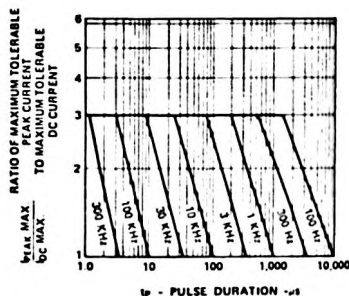

Figure 5. Maximum Tolerable Peak Current vs. Pulse Duration. (IDC MAX as per MAX Ratings)
1. See Figure 5 (Red), 10 (Yellow), or 15 (Green) to establish pulsed operating conditions.